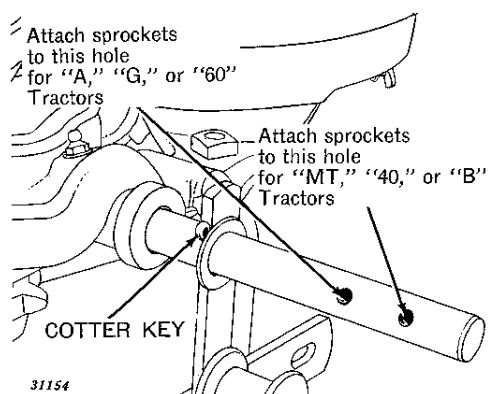

Figure 4
4. The gear case and drive assemblies are shipped with the sprockets on the outer ends of the drill shafts. This is the necessary position for Models "MT," "40," "B," and "50" Tractors in order to get proper alignment of the drive chains. If mounting on Models "A," "60," or "G" Tractors, remove the cotter keys, leave the flat washers on drill shafts, and pin the sprockets on drill shafts using hole indicated in Figure 4.